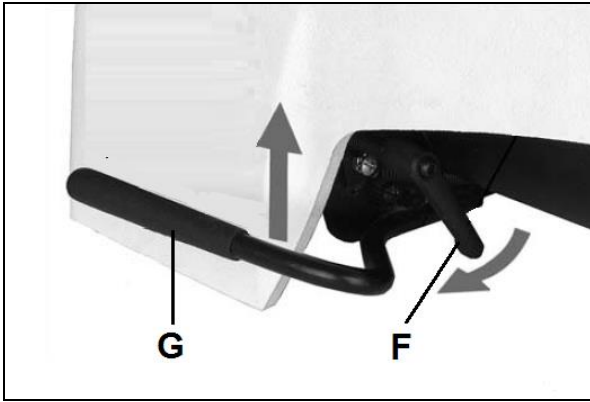

Fig 22
Take tension off the belt. Pull handle (F, Fig 22) and lift the lever (G).